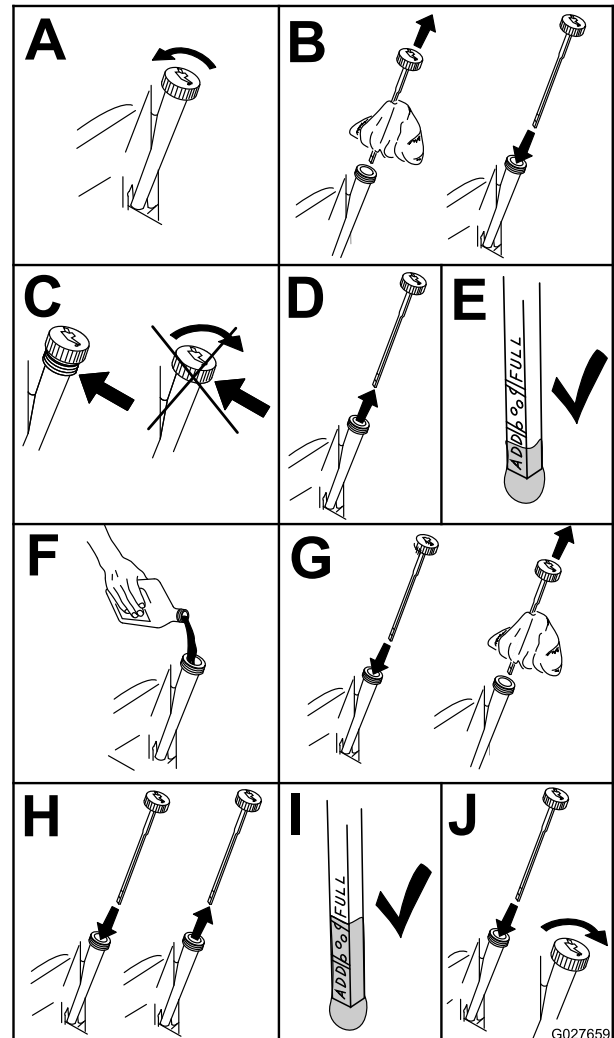

Figure 50
2. Shut off the engine, remove the key, and wait for all moving parts to stop before leaving the operating position (Figure 50).